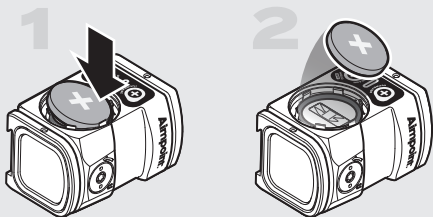

Fig. 2 Remove battery
- a Unscrew and remove the battery cap (3) using the flat side of the Aimpoint tool (8B) .
- b If replacing battery, remove depleted battery from the battery compartment by carefully pressing down on an edge as shown in Fig 2.